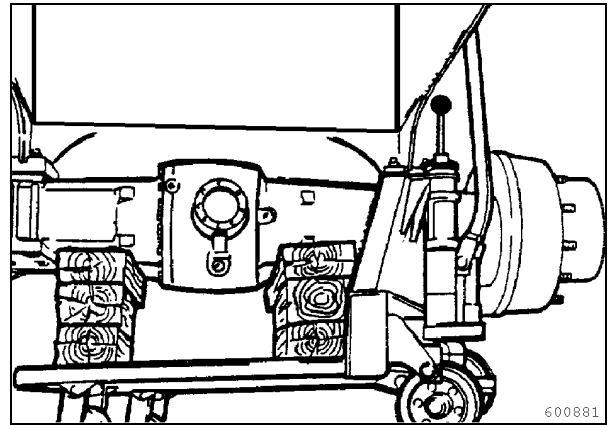

Fig. 4
- Loosen the fastening screws (1, Fig. 4).